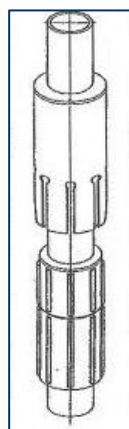

Fig. 2
3. Use the transition adapter to manually screw on and tighten the first pipe to the lifting cap in a hanging position. Make sure that the outer fins of the trunnion and sleeve are aligned (see fig.2). Push the safety cap over the trunnion and sleeve. Make sure that the safety cap engages under the sleeve edge.